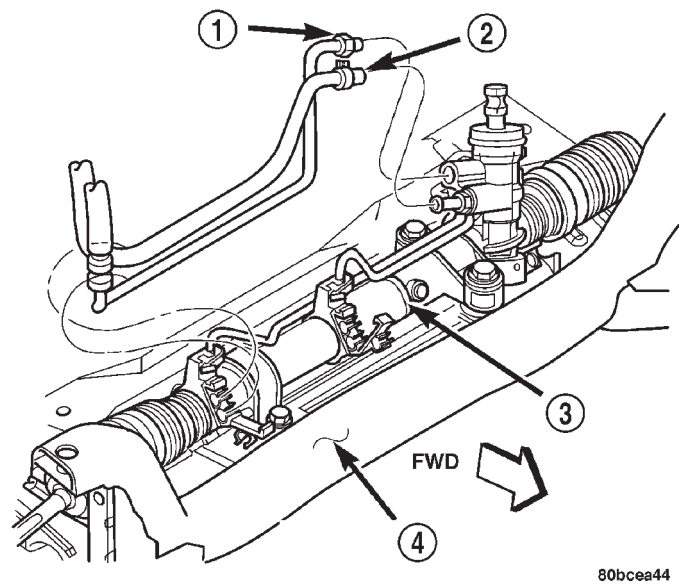
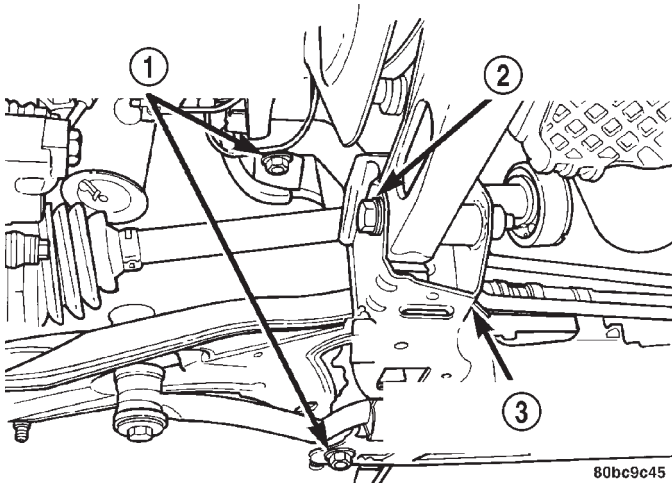
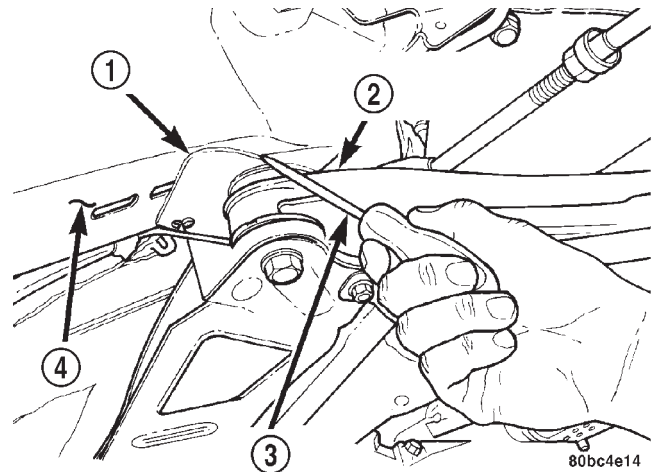

Fig. 7 Power Steering Hoses At Gear
Fig. 8 Mounting Bolts
Fig. 9 Marking Crossmember Location
(9) Back out the tube nut securing the power steering fluid pressure hose to the gear (Fig. 7).
(10) On vehicles without a power steering fluid cooler, loosen the clamp, then disconnect the power steering fluid return hose from the gear. If the vehicle is equipped with a power steering fluid cooler, disconnect the cooler hose from the gear in place of the power steering fluid return hose.
(11) If the vehicle is not equipped with a power steering cooler, remove the power steering return
(13) If the vehicle is equipped with a power steering fluid cooler, remove the two screws securing the cooler to the front suspension crossmember. They are located behind the cooler and can be accessed from above. Allow the cooler to hang out of the way.
(14) Remove the bolt mounting the engine torque strut to the right forward corner of the front suspension crossmember (Fig. 8).
NOTE: Before removing the front suspension crossmember from the vehicle, the location of the crossmember must be scribed on the body of the vehicle (Fig. 9). Do this so that the crossmember can be relocated upon reinstallation against the body of vehicle in the same location as before removal. If the front suspension crossmember is not reinstalled in exactly the same location as before removal, the preset front wheel alignment settings (caster and camber) will be lost.
(15) Using an awl, scribe a line (Fig. 9) marking the location of where the front suspension crossmember is mounted against the body of the vehicle.
(16) Position a transmission jack under the center of the front suspension crossmember and raise it to support the bottom of the crossmember.
(17) Loosen and completely remove the two front bolts (one right and one left) attaching the front suspension crossmember to the frame rails of vehicle. The right side bolt can be viewed in the mounting bolt figure (Fig. 8). The left side bolt is located in the same location on the other side of the vehicle.
(18) Loosen the two rear bolts (one right and one left) attaching the front suspension crossmember and lower control arms to the body of the vehicle until they release from the threaded tapping plates in the body of the vehicle. Do not completely remove the rear bolts because they are designed to disengage from the body threads yet stay within the lower control arm rear isolator bushing. This allows the lower control arm to stay in place on the crossmember. The right side bolt can be viewed in the mounting bolt figure (Fig. 8). The left side bolt is located in the same location on the other side of the vehicle.
(4) Center the power steering gear rack in its travel.
(5) Using the transmission jack, raise the front suspension crossmember and power steering gear until the crossmember contacts its mounting spot against the body and frame rails of the vehicle. As the crossmember is raised, carefully guide the steering column lower coupling up through its hole in the dash panel.
(6) Start the two rear crossmember mounting bolts into the tapping plates mounted in the body. The right side bolt can be viewed in the mounting bolt figure (Fig. 8). The left side bolt is located in the same location on the other side of the vehicle. Next, install the two front mounting bolts attaching front suspension crossmember to frame rails of vehicle. Lightly tighten all four mounting bolts to a approximately 2 N·m (20 in. lbs.) to hold the front suspension crossmember in position.
(7) Using a soft face hammer, tap the front suspension crossmember back-and-forth or side-to-side until it is aligned with the previously scribed positioning marks on the body of the vehicle (Fig. 9). Once the front suspension crossmember is correctly positioned, tighten the rear two crossmember (and rear lower control arm) mounting bolts to a torque of 203 N·m (150 ft. lbs.), then tighten the front two crossmember mounting bolts to a torque of 142 N·m (105 ft. lbs.).
(8) Fasten the engine torque strut to the right forward corner of the front suspension crossmember using its mounting bolt (Fig. 8). Follow the procedure described in the ENGINE service manual group to properly align and tighten the torque strut and its mounting bolts.
(9) Using a lint free towel, wipe clean the open power steering hose ends and the power steering gear ports. Replace the pressure hose used O-ring with new. Lubricate the O-ring with power steering fluid.
(10) Attach the power steering fluid pressure hose to its port on the power steering gear (Fig. 7). Start the tube nut threads into the gear, but do not tighten them at this time. On vehicles equipped with a power steering fluid cooler, reconnect the cooler line to the gear in place of the power steering fluid return hose.
(11) Open the routing clips on the front of the steering gear housing and install the power steering fluid pressure hose into the routing clips.
(12) On vehicles equipped with a power steering fluid cooler, place the cooler in mounting position and snap the cooler tube going to the gear into the right routing clip.
(13) Close both routing clips.
(14) Tighten the power steering fluid pressure hose tube nut at the gear to a torque of 34 N·m (25 ft. lbs.).
(15) If the vehicle is equipped with a power steering fluid cooler, install the two screws securing the cooler to the front suspension crossmember. They are located behind the cooler.
(16) On vehicle's with a power steering fluid cooler, place the hose clamp on the hose far enough from the end to clear the steel fitting on the gear. Do the same for the fluid return hose on a vehicle that is not equipped with a cooler.